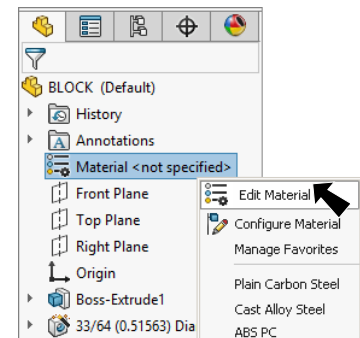

Fig. 7
Step 1. **Right click Material**  in the Feature Manager and click **Edit Material**, **Fig. 7**.